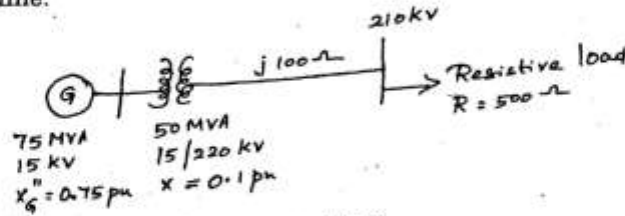

Fig. 11. (a) (i)
11. (a) (i) For the system shown in figure 11 (a) (i) determine the generator voltage. Take a base of 100 MVA and 210 KV in the transmission line. (10)